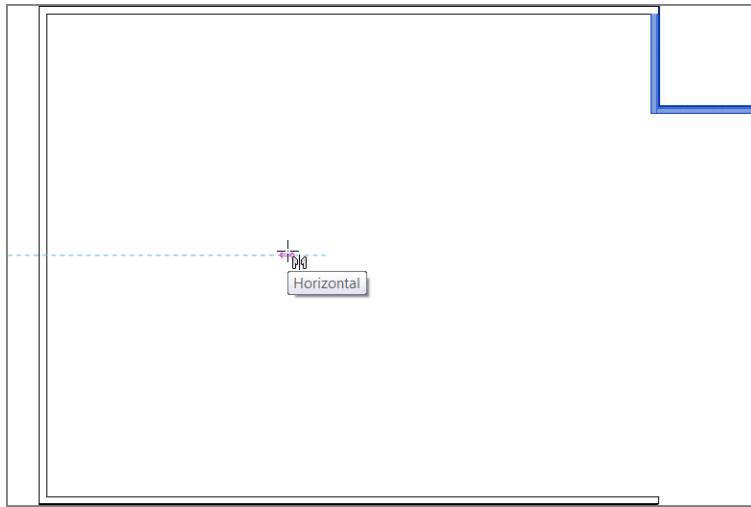
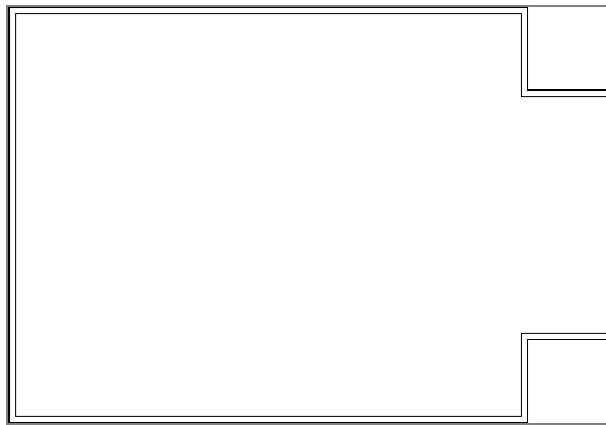

FIGURE 1.27: Mirroring these walls involves: (1) picking the midpoint of the vertical wall, and (2) picking a horizontal point along the plane.
FIGURE 1.28: Your building should look like this illustration.
6. When the triangular midpoint snap appears, pick this point. After you pick the point where the triangle appears, you can move your cursor directly to the right of the wall. An alignment line appears, as shown in Figure 1.27. When it does, you can pick another point along the path. When you pick the second point, the walls are mirrored and joined with the south wall (see Figure 1.28).
Now that you have some experience mirroring items, it's time to start adding components to your model by utilizing the items that you placed earlier. If you're having trouble following the process, retry these first few procedures. Rome wasn't built in a day. (Well, perhaps if they'd had Revit, it would have sped things up!) You want your first few walls to look like Figure 1.28.